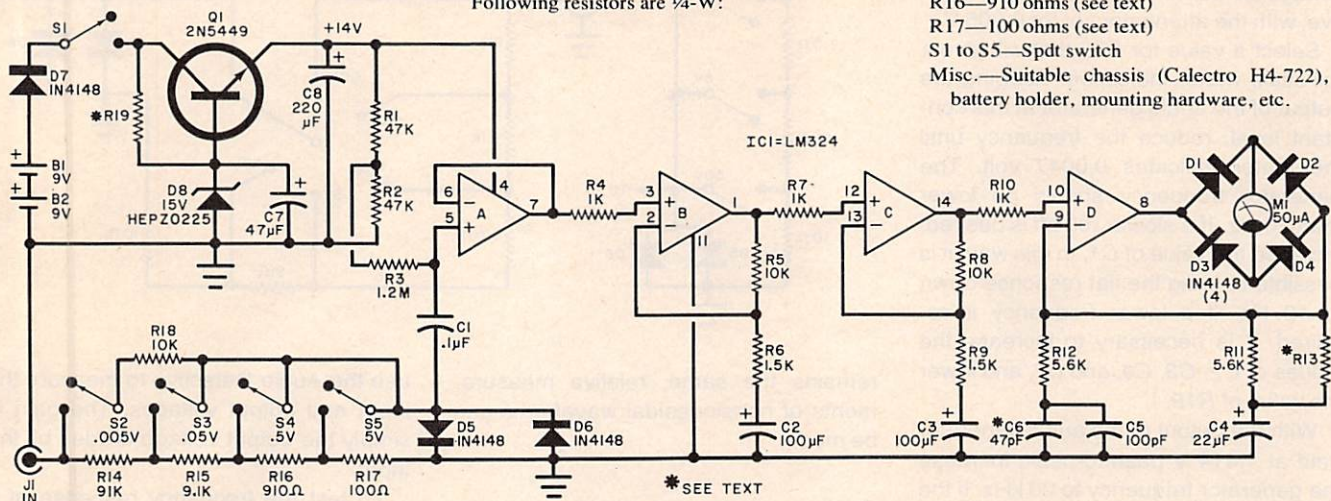

Fig. 1. The first three op amps in IC1 form a sensitive ac amplifier and the fourth drives the meter.
**Circuit Operation.** The circuit made up of transistor *Q1*, *R19*, *C7*, and *D8* is a regulated power supply which provides 14 volts for *IC1* (Fig. 1). Due to the presence of *C7*, the supply turns on slowly to prevent capacitor charging currents on *C2*, *C3*, and *C4* from damaging the meter. Diode *D7* protects the circuit from an accidental reversal of battery polarity.
Fig. 3. To add a 50-volt range to the Audio Detective use either a rotary or discrete switches as shown here. Note the changes in the bottom two resistors as compared to Fig. 1.
**Modifications.** The schematic in Fig. 1 shows the input attenuator spanning four ranges from 0.005 to 5 volts. If you want to extend the upper limit, use the attenuator shown in Fig. 3. Two versions are shown—one using five slide switches and one a rotary switch. Either will extend the range to 50 volts. ◇
**How It Works.** Battery *B1* (Fig. 1) gets a constant trickle charge from the transformer through *D1* and *R1*. As shown here, the battery is made up of two 1.25-V NiCd cells. Sealed NiCd or lead-acid storage cells with higher voltage ratings could be used. Vented secondary batteries can be used if the electrolyte is checked every few months. If carbon-zinc or manganese-alkaline cells are used, the value of *R1* should be increased to 47,000 ohms. Remember also that manganese-alkaline and mercury cells may burst when recharged.